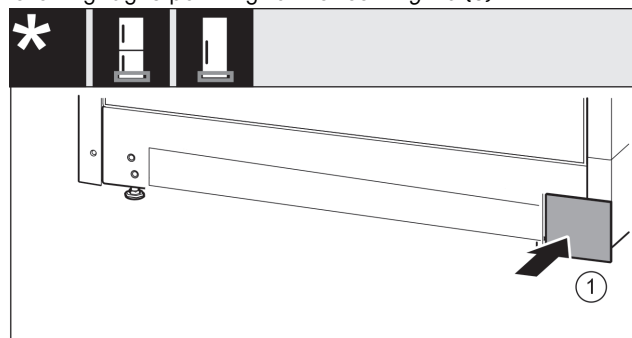

Fig. 17
- Put the cover back on the other side. Fig. 17 (1)